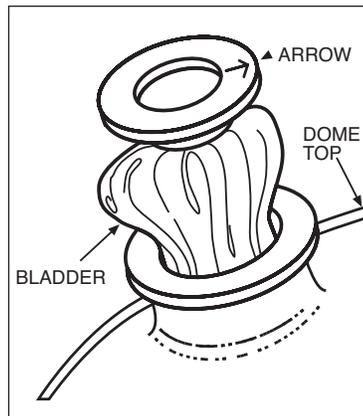

Figure 5
19. Arrow on bladder flange must be pointing to top of tank (Figure 5).